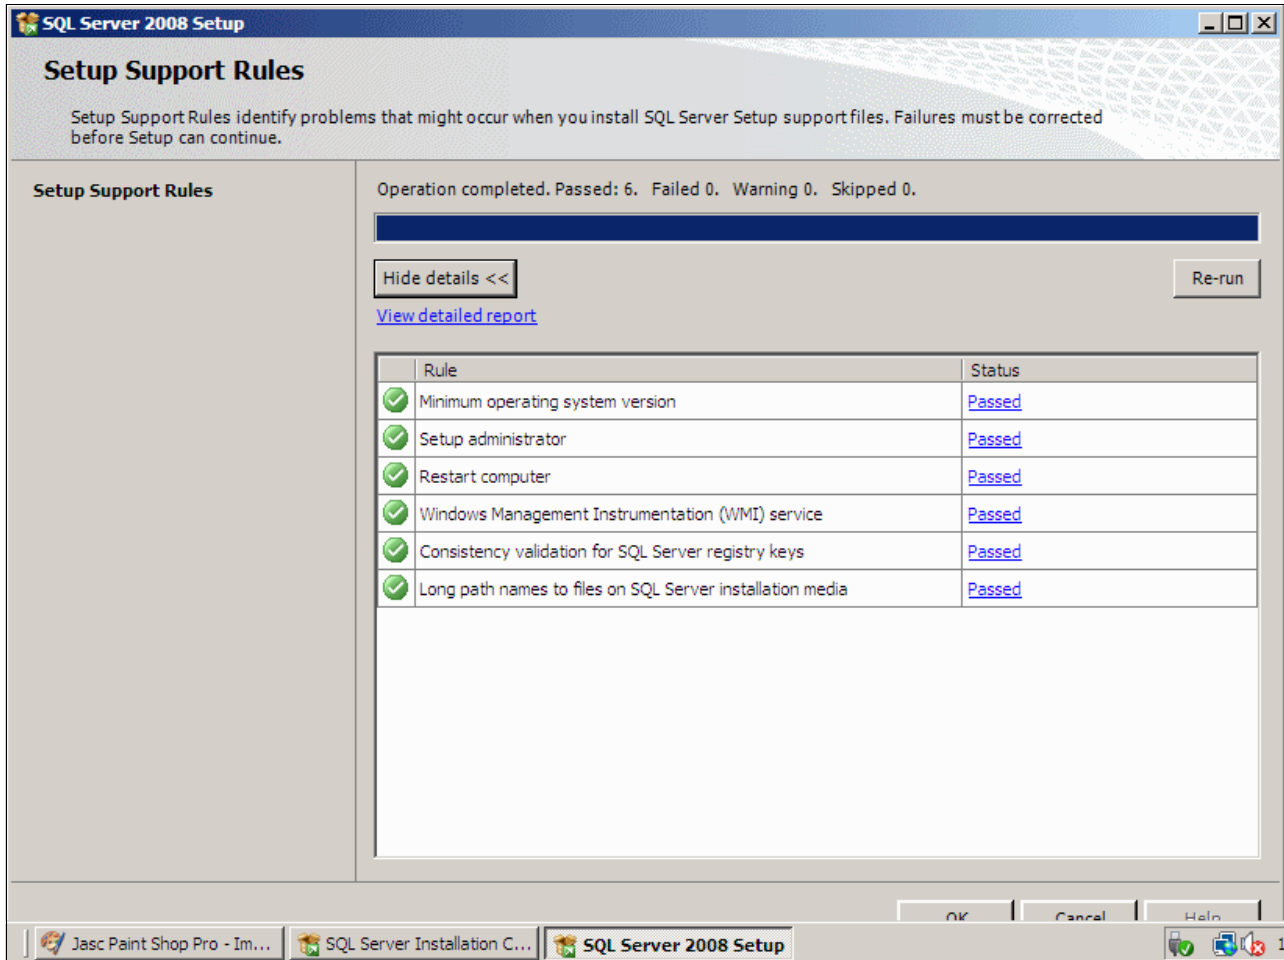

Figure 6-22 Setup Support Rules installation window
7. If all the setup support rules are met, the “Setup Support Rules” panel (Figure 6-22) displays, showing the operation completed successfully. Click **OK**.